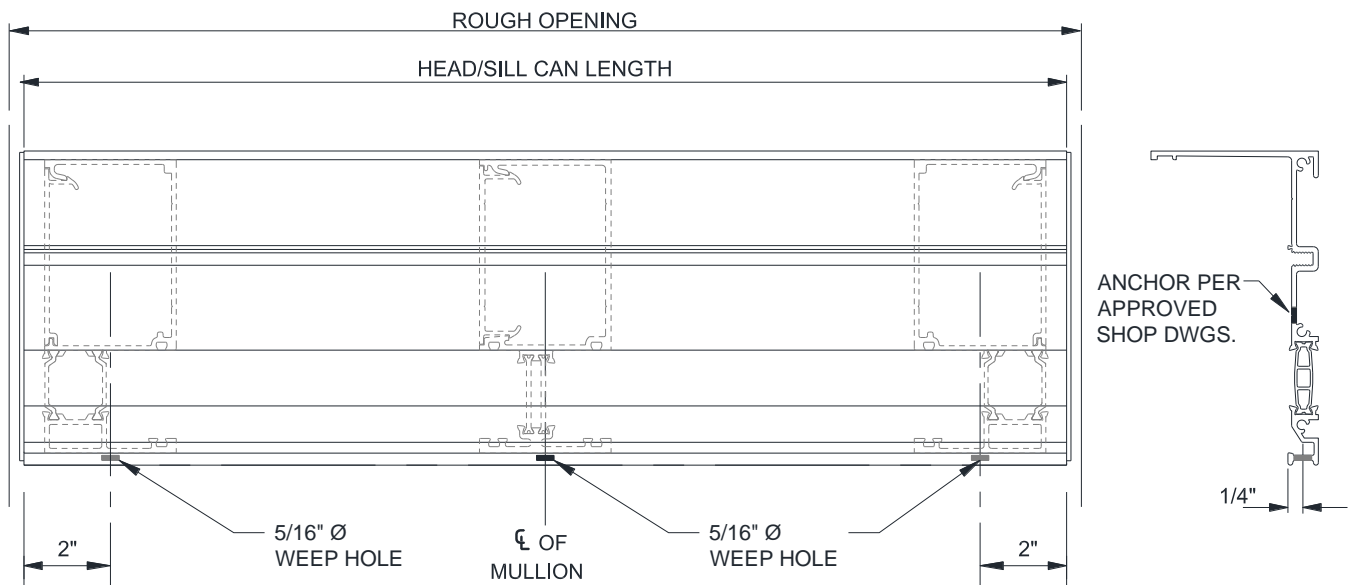

Figure 15: RT501 Sill Receptor, RT502 Similar
6.2 Drill 5/16" Ø weep holes in the "V" groove on the front face of the Sill Receptor at the center of each Vertical and the midpoint of each D.L.O. between Verticals. See *Figure 15*.